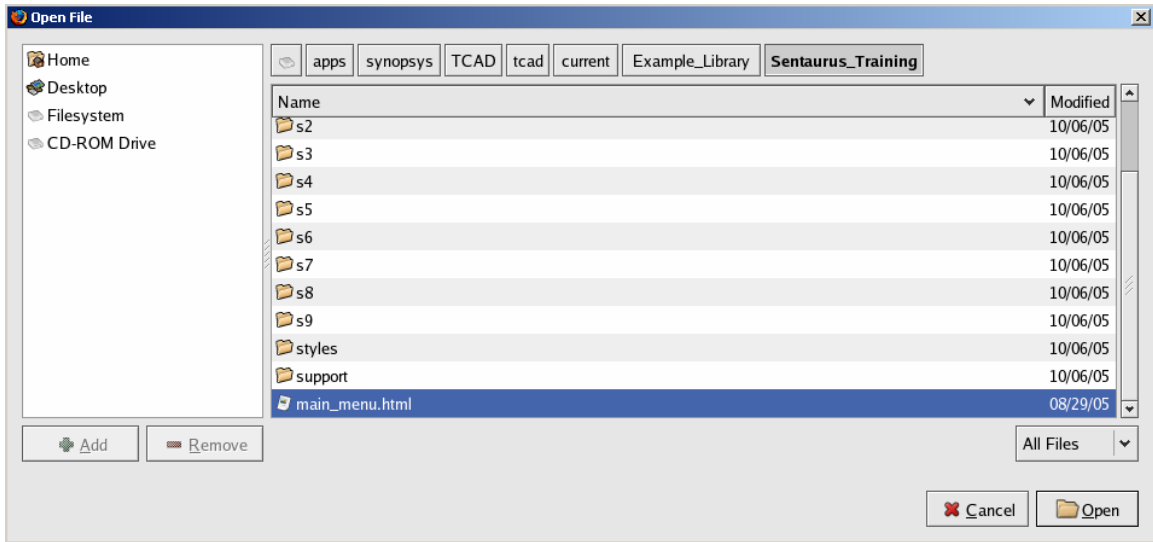

Figure 4: Location of Sentaurus Training.
6. Click on apps, synopsys, TCAD, tcad, current, Example_Library, Sentaurus_Training (Figure 4).
7. Double Click on main_menu.html (Figure 4).